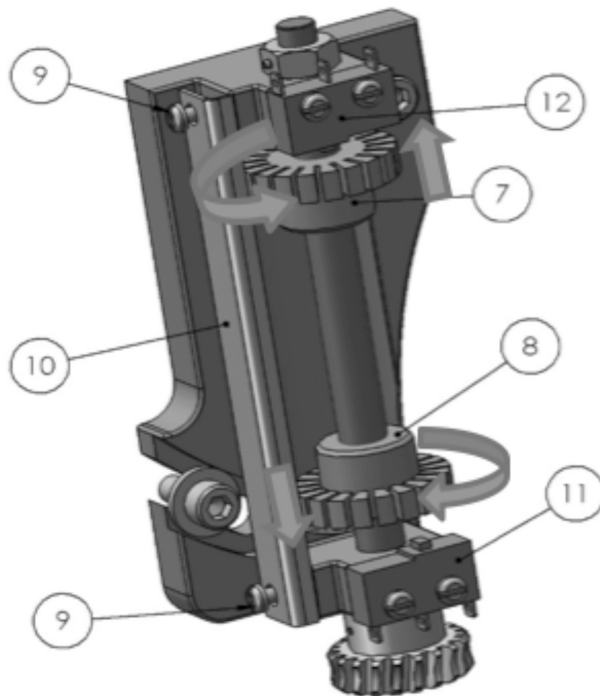

Figure 6-1
4. Loosen the two screws (9) on the limit switch without removing them.
5. Pull back the adjustment bar (10) so that the adjustment wheels can turn freely.
6. Turn on the lower limit adjustment wheel (7) towards the micro limit switch (12) until it clicks (see Figure 6-1 below).
7. Put back the adjustment bar (10) in place and tighten both screws (9).
11. Loosen the two screws (9) on the limit switch without removing them.
12. Pull back the adjustment bar (10) so that the adjustment wheels can turn freely.
13. Turn on the upper limit adjustment wheel (8) towards the micro limit switch (11) until it clicks (see Figure 6-1 above).
14. Put back the adjustment bar (10) in place and tighten both screws (9).